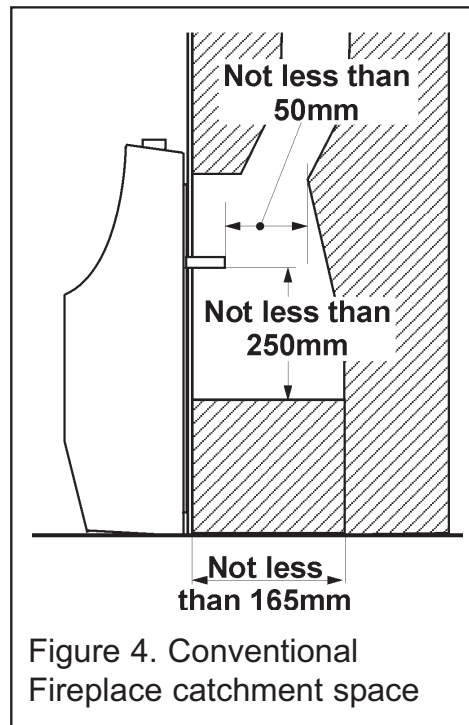

Figure 4. Conventional Fireplace catchment space
On conventional flues the catchment space below the flue spigot must extend at least 250mm downwards measured from the bottom of the flue spigot (See figure 4).
Any opening visible below the appliance may be closed in but the depth of the catchment space within the wall opening must be as shown in figure 4.
9. If the fire is fitted to a recessed fireplace, an extension flue spigot up to a maximum total length of 125mm may be used. The extension must be a tight fit over the flue spigot and be secured by two self tapping screws. Note the minimum clearance required as shown in figure 4.